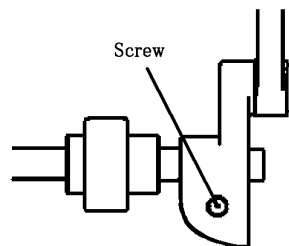

Fig.2
2. Loosen the screw at the right side of lower shaft, adjust the position of hook.(Fig. 2)
3. Tighten the screw.(Fig. 2)